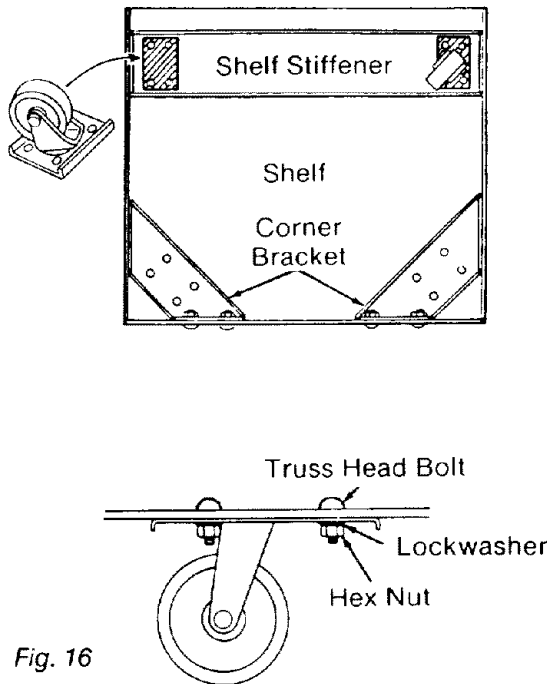

Fig. 16
5. Put the *shelf stiffener* on the *shelf* and line up the holes. (Figure 16)
6. Put the *casters (wheels)* on the *shelf* and *shelf stiffener*. Since the *shelf* is upside down, the *wheels* will point up. Line up four holes on each side. (Figure 16)